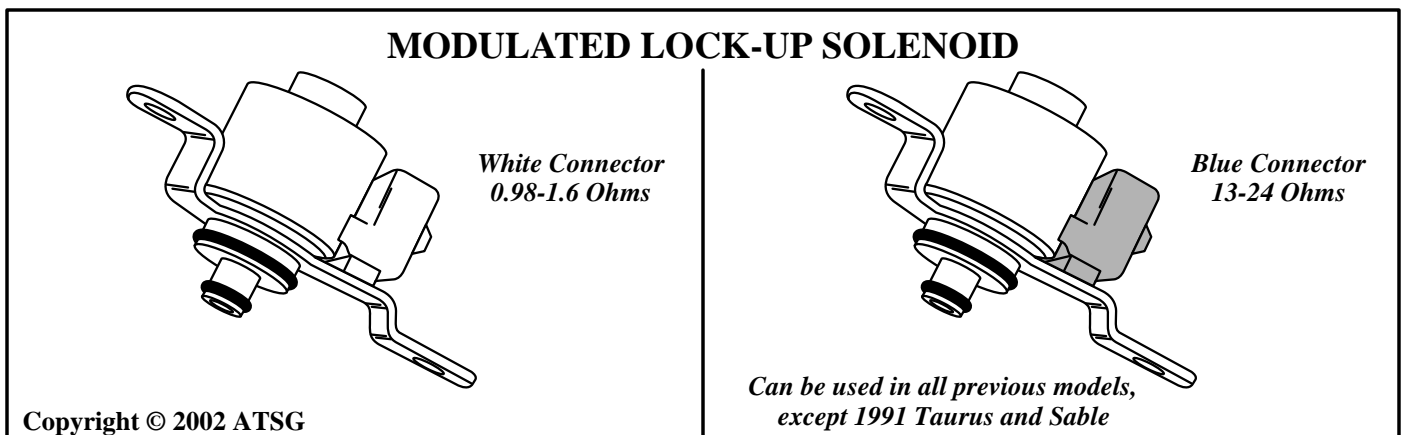

Figure 92
MODULATED LOCK-UP SOLENOID - The new design MLUS is round, like the previous (1) design solenoid, but has a **blue** connector instead of the previous white, and a resistance value of **13-24 Ohms**, instead of the previous 0.98-1.6 Ohms resistance (See Figure 92).